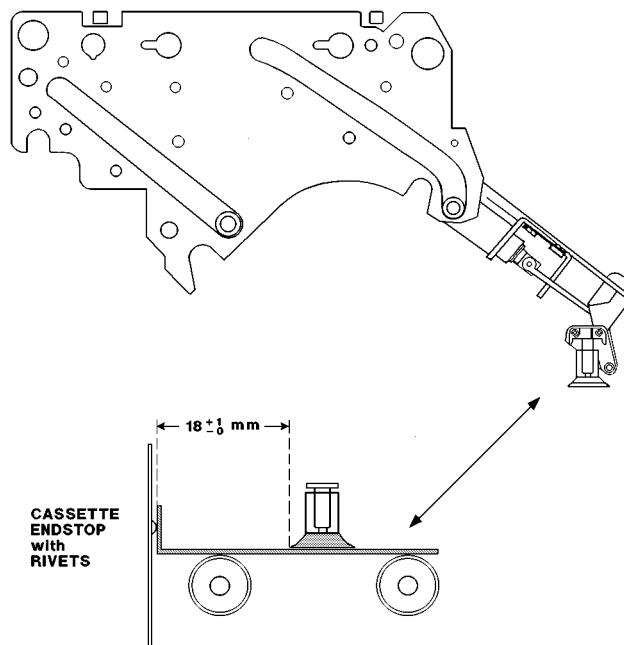
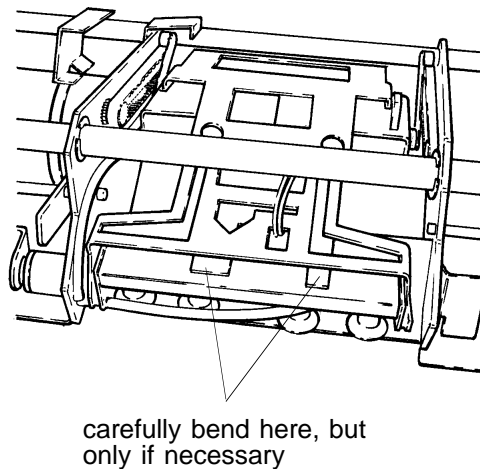

figure 9
figure 11
11. If it is not possible to reach the 18 mm (figure 9, step 9), bend the parts shown in figure 11.